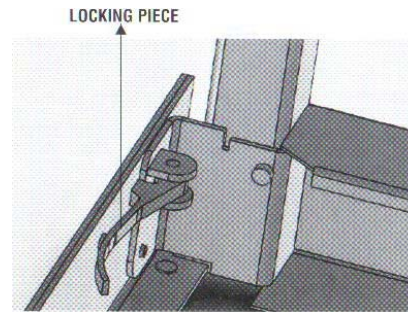

FIG. 01
2. Unfold legs and secure the locking piece(#14) located near the leg in position. The legs should stand firmly upright. If a leg is not securely locked, it could fold unexpectedly and cause damage or injury. (FIG. 01 shows the locking piece in locking position)